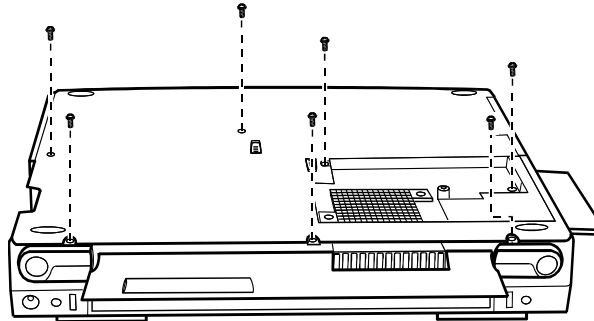

FIGURE 7-28. REMOVING THE BOTTOM SCREWS
7. TO REMOVE THE CHASSIS, FIRST OPEN THE NOTEBOOK REAR AND RIGHT CONNECTOR COVERS (SEE FIGURE 7-28), THEN DETACH THE CHASSIS FROM THE BASE UNIT.
3. REPLACE THE SEVEN BOTTOM SCREWS. (SEE FIGURE 7-28).
6. REMOVE SEVEN BOTTOM SCREWS. (SEE FIGURE 7-28).
7. REMOVE SEVEN BOTTOM SCREWS. (SEE FIGURE 7-28).
7. REPLACE THE SEVEN BOTTOM SCREWS. (SEE FIGURE 7-28).